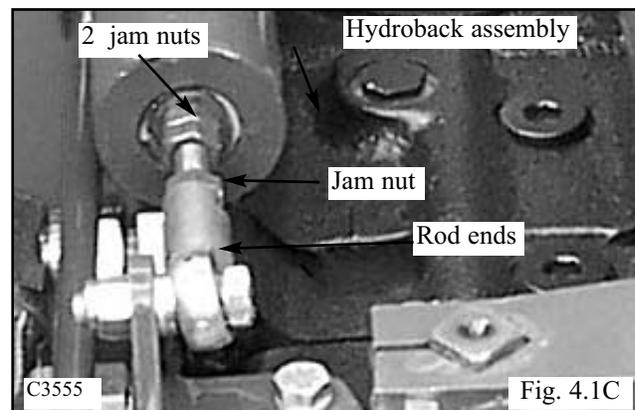

Fig. 4.1C
- 4 Check the rod ends on each end of the hydroback. They must be free of any play. Replace the rod ends if any play or slack is noticed. (Fig. 4.1C)